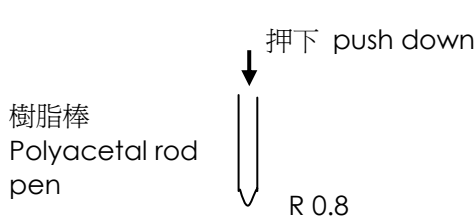

Fig.1 筆輸入 by pen
- 筆尖端 Shape of pen end : R 0.8 (Refer Fig.1)